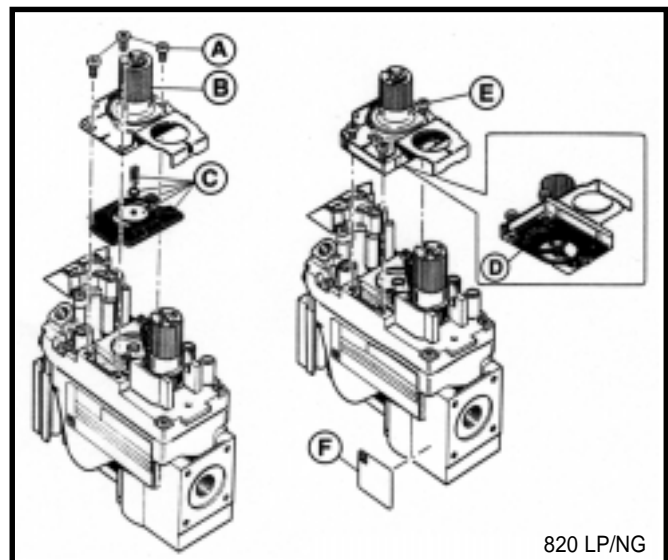

Fig. 48 SIT pressure regulator replacement
9. SIT 820 NOVA Gas Control Valve (Fig. 48)
- a) Using a Torx T20 or slotted screwdriver, remove and save three (3) pressure regulator mounting screws (A), pressure regulator tower (B), and diaphragm (C).
- b) Ensure the rubber gasket (D) is properly positioned and install the new HI/LO pressure regulator to the valve using the new screws (E) supplied with the kit. Tighten the screws securely. (Reference torque: 25 in.lb.)
- c) Install the enclosed identification label (F) to the valve body where it can be easily seen.